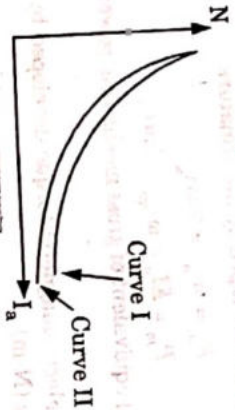

Fig. 4.8.2.
4. As I_a increases, the flux increases and hence the speed decreases as shown by curve I in Fig. 4.8.2.
5. As I_a increases, $I_a (R_a + R_{se})$ drop increases, thus E_b decreases and speed also decreases as per eq. (4.8.1) and (4.8.3). This decrease in speed due to ohmic drop is shown by curve II in Fig. 4.8.2.